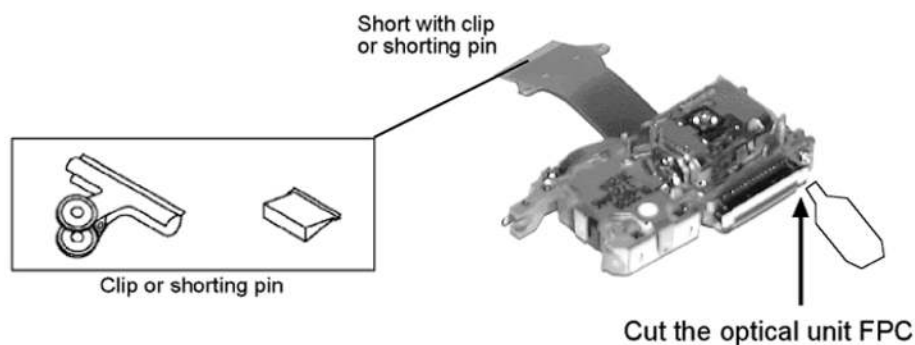
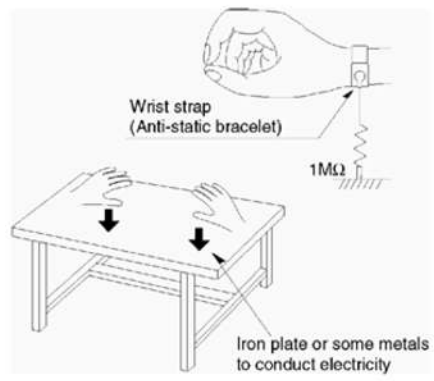

Fig. 6.1
Fig. 6.2
2. Short-circuit the flexible cable of optical pickup remove from the circuit board using a short-circuit pin or clip in order to prevent laser diode from electrostatic destruction (Refer to Fig. 6.1 and Fig. 6.2)
3. Do not handle flexible cables forcibly as this may cause snapping. Handle the parts carefully (Refer to Fig. 6.1)
4. A new optical pickup is equipped with an anti-static flexible cable. After replacing and connecting to the flexible board, cut the anti-static flexible cable. (Refer to Fig. 6.1)
Use the anti-static wrist strap to discharge the static electricity accumulated in your body. (Refer to Fig. 6.2)
Place a conductive material (conductive sheet) or ironboard where optical pickup is placed. (Refer to Fig. 6.2)